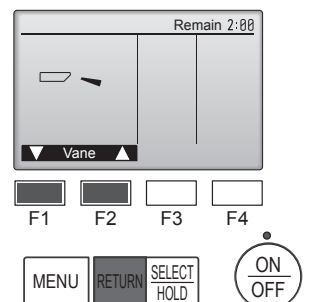

Fig. 7-4
- (2) Press the [SELECT/HOLD] button to display the Vane operation screen, and then press the [F1] and [F2] buttons to check the auto vane. (Fig. 7-4)